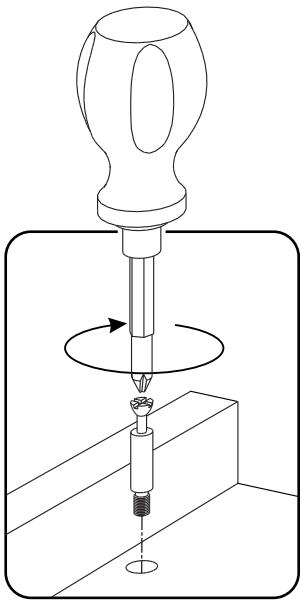

Figure 1
Insert Cam Lock Screws into pre-drilled holes in Top (A), Side Panels (B), (C) and Fixed Shelf (I), then tighten. (See Figure 1)